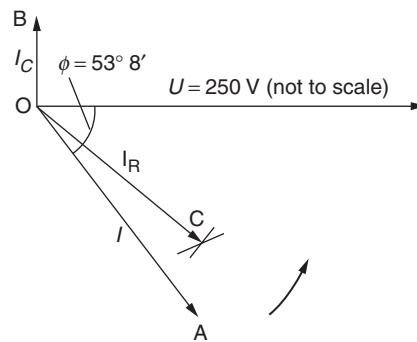

Fig. 51
Draw the voltage phasor (Figure 51) and set off the appliance-current phasor at $53^\circ 8'$ lagging (OA).